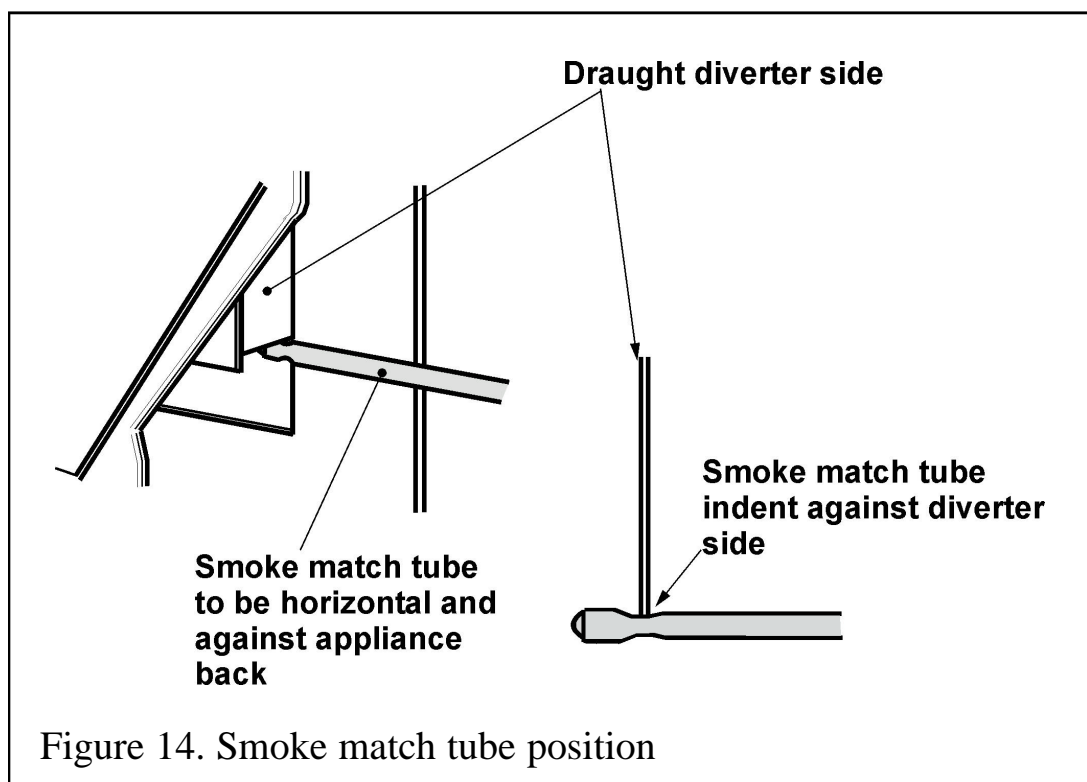

Figure 14. Smoke match tube position
**7.3.4** Insert the smoke match tube (with lighted match) into the side of the appliance and against the back panel. Position the tube so that it is horizontal, against the back panel and with its top edge touching the side of the draught diverter box. Slide the tube until the indent in the tube is level with the diverter side (See figure 14).